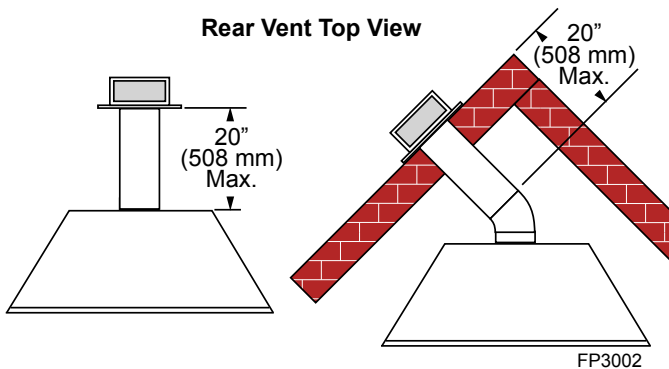

Figure 22 -
- The maximum horizontal distance between the rear of the appliance (or end of the transition elbow in a corner application) and the outside face of the rear wall is 20" (508 mm). *Figure 22*
Measure the horizontal length requirement for the venting including a 2" (51 mm) overlap, i.e. from the elbow to the outside wall face plus 2" (51 mm). *Figure 22*